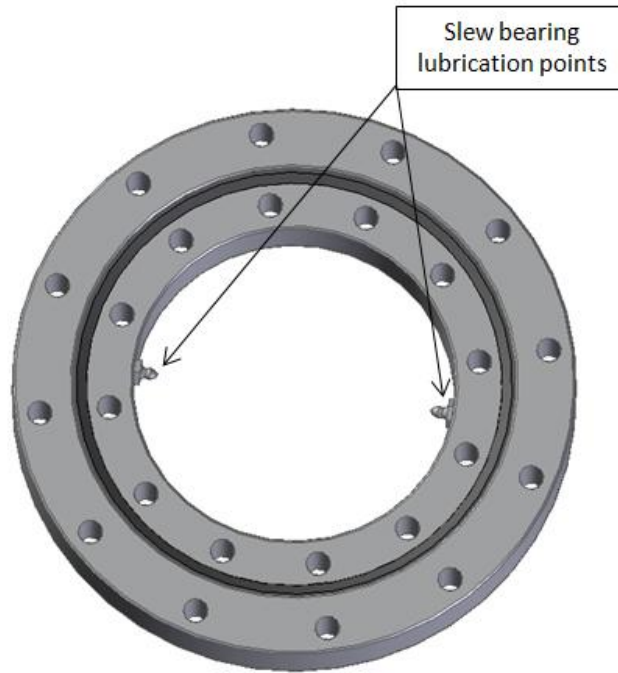

Figure 2. Slew Drive Maintenance Points
- While rotating the slewing bearing, inject grease into the cleaned grease fittings, according to Figure 2.